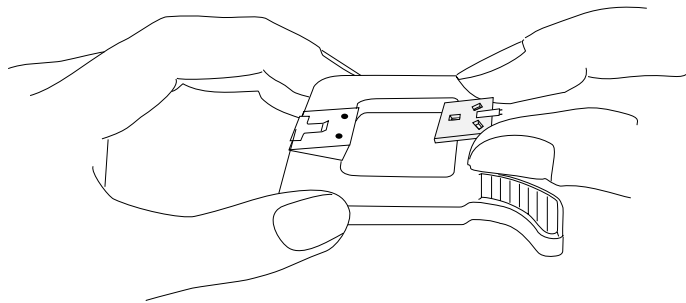

Figure 2-13. One hand holding the cartridge and the other holding a chip carrier.
4. Take hold of the chip carrier using two fingers as shown in Figure 2-13. Orient the chip carrier with the cantilever chip facing up and the chip pointing towards you, as shown. Be careful not to touch the chip!
5. Pick up the cartridge with your other hand and hold it as shown in Figure 2-13.